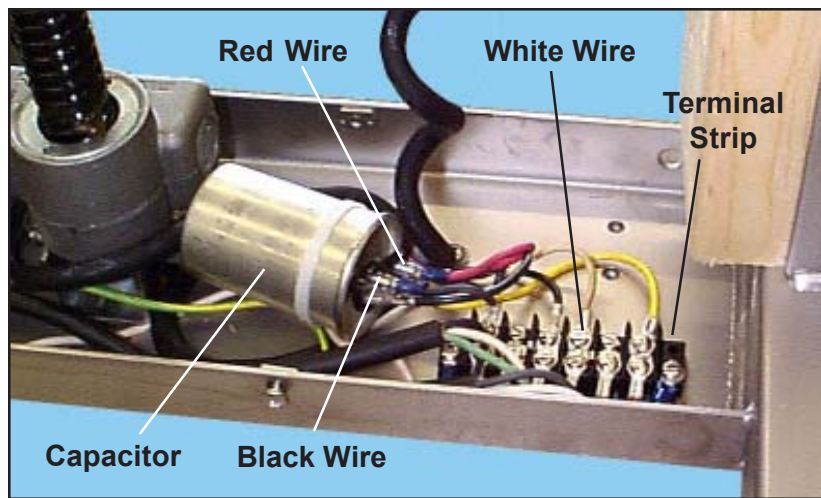

Figure 28. Disconnecting the Motor Wires
15. Note down where the three motor wires (red, black, white) connect so you can replace them correctly (Figures 28 and 45).
17. With a small, flat-blade screwdriver, disconnect the white motor wire from the terminal strip (Figure 28).
10. Connect the white motor wire to the terminal strip (Figure 28).
11. Connect the red and black wires to the capacitor (Figures 28 and 41).